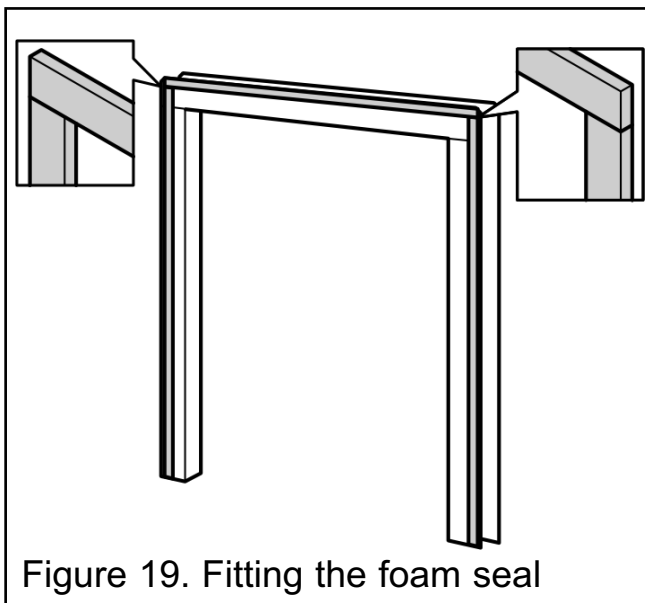

Figure 19. Fitting the foam seal
**12.** The long length of self adhesive foam seal needs to be fitted to the outer rear edges of the side and top pieces of the spacer frame. Fit it to the flanges that do not have holes. The holes must be placed against the rear of the fire. Ensure that there is no gap between the foam seals where they meet at the top flange (See figure 19).